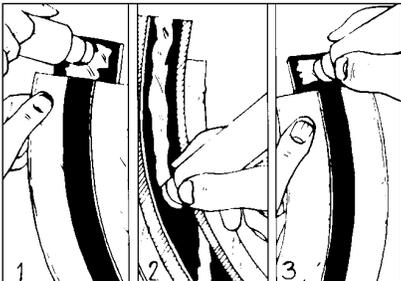

Figure 6
4. Remove the protective paper from the sealing strip on the inside surface of the TDUX duct seal and lubricate the strip abundantly. *(Figure 6)*